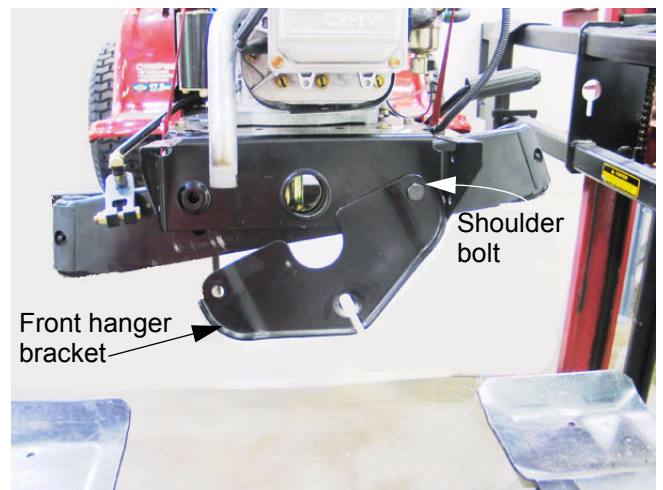

Figure 16.12
- 16.12. Remove the shoulder bolts that pass through the front hanger bracket, front pivot bracket, pivot bar, and frame. See Figure 16.12.